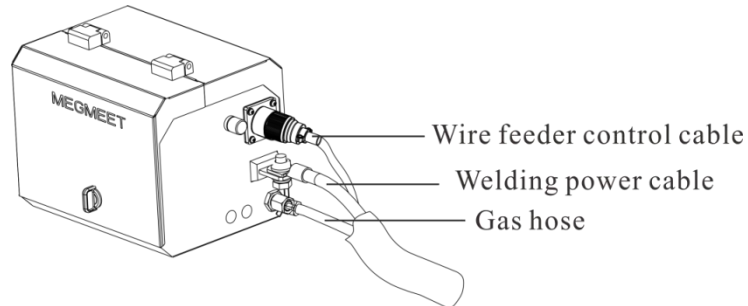

Figure 2-4 Connection of robotic wire feeder
3. Connect gas hose to the copper joint on the fixing plate of the wire feeder, and tighten the gas hose clamp, as shown in Figure 2-4.